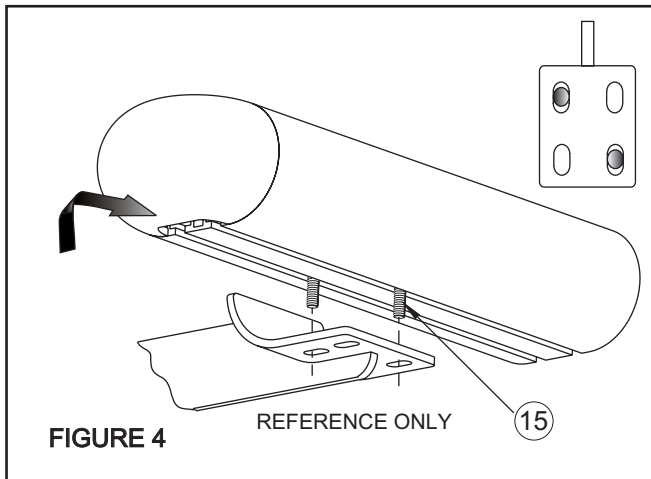

FIGURE 4
- STEP 6.** Slide T-head bolts on step bar as shown (2 per slot, 4 per bar). Place step bar on saddle with long step pad forward and end cap screw facing inward. Assemble with 1/4" fasteners. **SEE FIGURES 4 AND 5.**